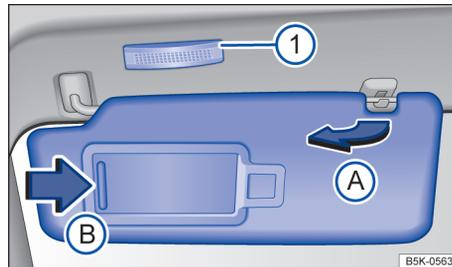

Fig. 87 Sun visor.
- Lift the sun visor out of the retaining clip → fig. 87 **A**.
A vanity mirror is behind a cover in the sun visor. When you slide the cover open → fig. 87 **B**, the light → fig. 87 **1** comes on.